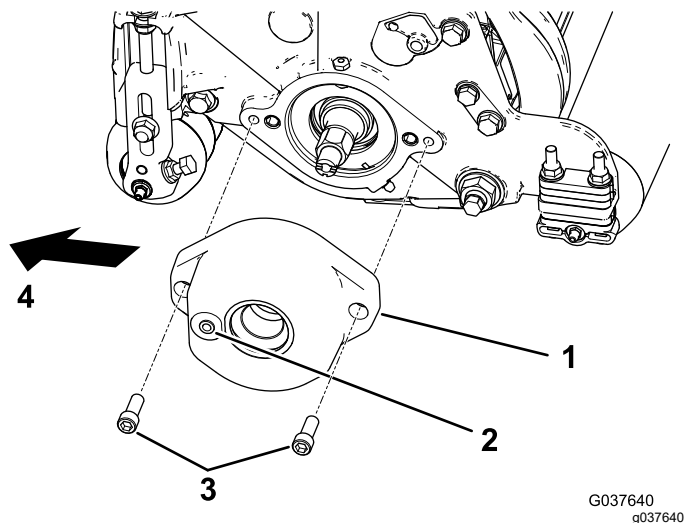

Figure 4
2. **For Model 133-0158 kit for Reelmaster 5010 machines with 7-inch cutting units only:** Mount the roller-brush housing to the reel-bearing housing with 2 hex-socket bolts (3/8 x 1 inch); refer to Figure 4.